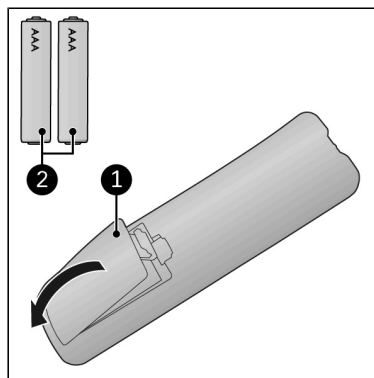

Figure 30.
1. Remove the battery cover (Figure 30, pos. 1).
3. Insert two batteries (AAA 1.5 V) (Figure 30, pos. 2) as indicated in the battery compartment. Make sure to insert the batteries correctly.